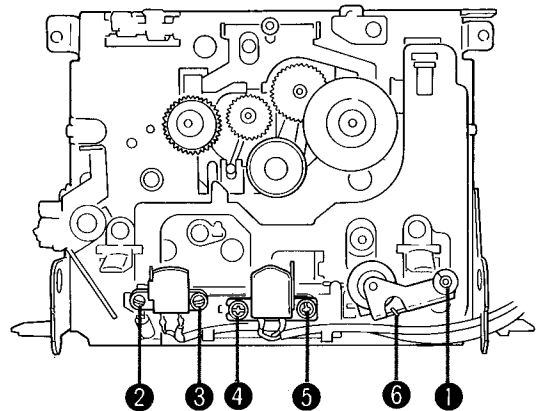

Fig. 12
2. Remove the lock washer 1 in Fig. 12 and remove the actuator of pinch roller spring 6 in Fig. 12 and then pull out the pinch roller.
3. Remove the screws 2 and 3 in Fig. 12 and then remove the erase head.
4. Remove the screws 4 and 5 in Fig. 12 and then remove the record/playback head.
- \* Be careful not to lose the spring which are attached to the screws 2 and 4 in Fig. 12.